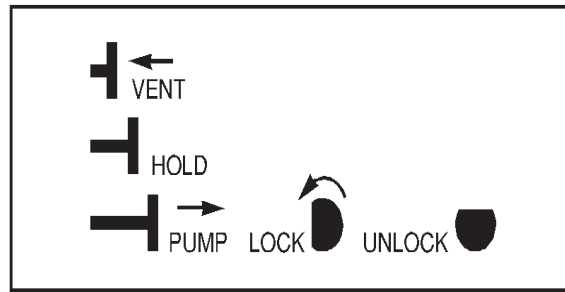

Figure 6 Valve Operation
3. Pull the valve handle out to the PUMP position and rotate the handle $\frac{1}{4}$ -turn counterclockwise (Figure 6). The gurgling sound should stop in a minute or so if there are no leaks in the vacuum line.
When the sample is in place, close the door, pull the chamber valve to the PUMP position and lock it by rotating the handle $\frac{1}{4}$ -turn counter clockwise (Figure 6).
3. Carefully push the chamber valve to the VENT position and open the chamber door. Let the valve return to the HOLD position. See Figure 6. Vacuum in adjacent chambers should not change.
5. Pull the chamber valve handle to the PUMP position and lock it by rotating the handle $\frac{1}{4}$ -turn counterclockwise (Figure 6). The pressure in adjacent chambers
1. Remove the 7401's side covers and verify that jumper J5, Interlock Set Point, is set to the 500 $\mu\text{m Hg}$ position (position B). Refer to Figure 6 for the jumper's location.
4. Carefully push the chamber valve to the VENT position (Figure 6) and open the chamber door. Let the valve return to the HOLD position. Vacuum in adjacent chambers should not change.